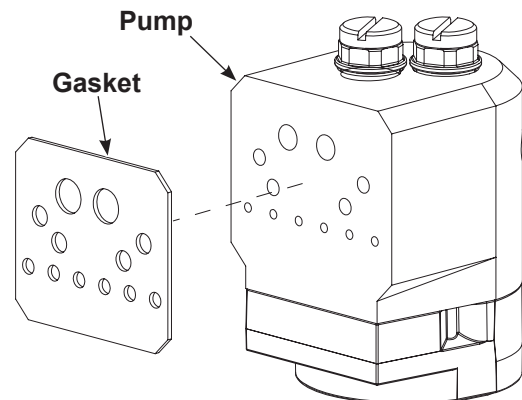

Figure 27 Replacing Pump Gasket
- See Figure 27. Remove pump gasket from the pump.